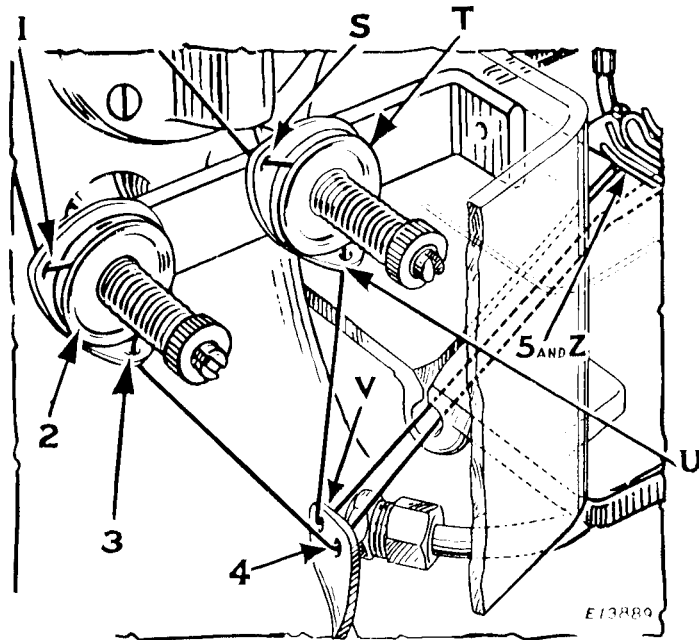
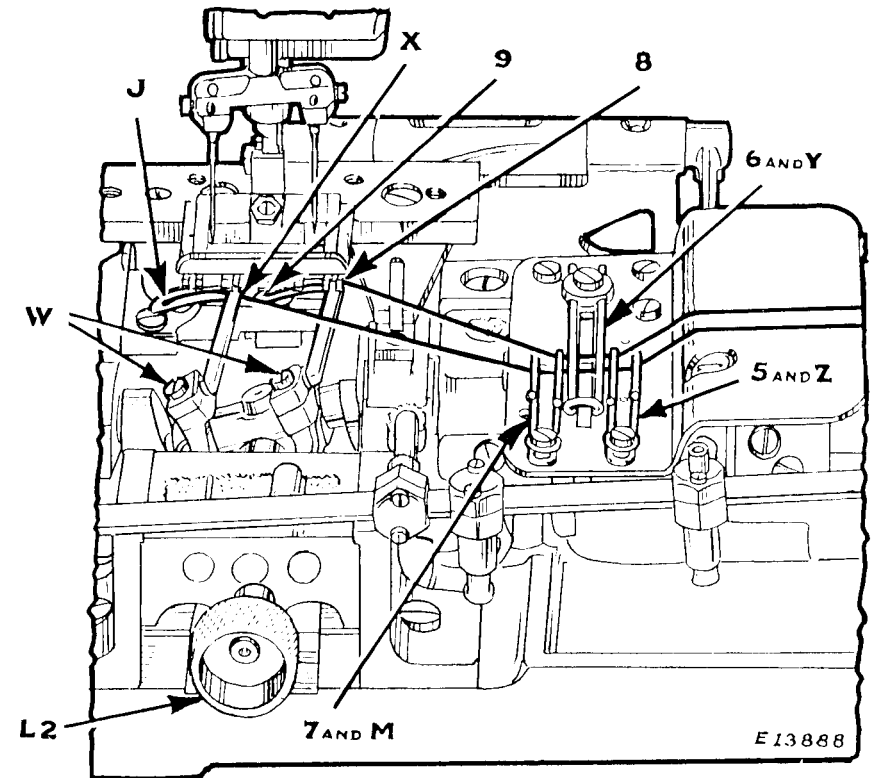

Fig. 5. Threading the Loopers
Fig. 6. Threading the Loopers
(See Figs. 5 and 6)
Turn the balance wheel over from you until the needle bar moves up to its highest position, then turn knob (L2, Fig. 6) to the left as far as it will go, and move it downward, thus putting the loopers in "throw-out" position for convenient threading.
TO THREAD THE RIGHT HAND LOOPER, pass the thread from the un-winder through the hole (1, Fig. 5) in the right hand tension bracket and over between the tension discs (2) at the back of the machine, through the hole (3) and down through the rearmost eyelet (4) in the upright thread guide which is fastened to the base of the machine. Pass the thread through the hole in the cloth plate guard and through the slot in the cloth plate, then pass the thread over the first guide and into the second guide of eyelet (5, Fig. 6), under the stripper (6, Fig. 6), into the first guide and over the second guide of eyelet (7, Fig. 6), through the hole (8, Fig. 6) in the heel of the looper and from you and toward the rear side of the machine through the eye (9, Fig. 6) of the looper.
TO THREAD THE LEFT HAND LOOPER, pass the thread from the un-winder through the hole (S, Fig. 5) in the left hand tension bracket, over between the tension discs (T, Fig. 5) at the back of the machine, through the hole (U, Fig. 5) and down through the front eyelet (V, Fig. 5) in the upright thread guide which is fastened to the base of the machine. Pass the thread through the hole in cloth plate guard and through the slot in the cloth plate. Then pass the thread through both guides of the eyelet (Z, Fig. 6), under the stripper (Y, Fig. 6), through both guides of the eyelet (M, Fig. 6), through the hole (X, Fig. 6) in the heel of the looper and from you and toward the rear side of the machine through the eye (J, Fig. 6) of the looper.
Allow about two inches of thread to hang free from the eye of each looper with which to commence sewing, and move the knob (L2, Fig. 6) upward, turning it back into sewing position.
When the needle bar is at its lowest position, the point of each looper should be approximately $9/64$ inch from the center of its needle. When setting is required, remove the presser foot, slide plate and throat plate. Then loosen the clamp screws (W, Fig.6, page 9) and set the loopers as instructed. Also make sure that the loopers clear the needles on both the forward and backward strokes before tightening the clamp screws (W, Fig.6).